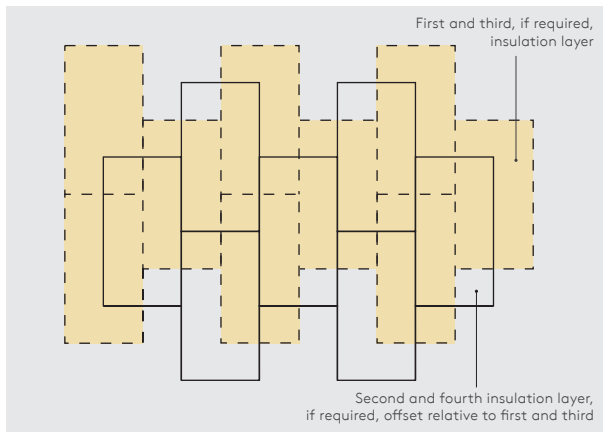

Figure 3 - Offsetting of multiple insulation layers
- If two or more layers of insulation are required, they should be horizontally offset relative to each other so that, as far as possible, the board joints in any two adjacent layers do not coincide with each other (see Figure 3).